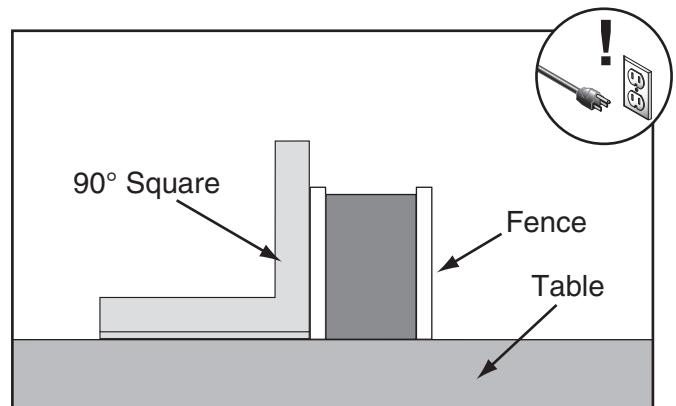

Figure 126. Example of checking fence squareness to table.
2. Place square on table against face of fence (see **Figure 126**) to check if fence is square to table.